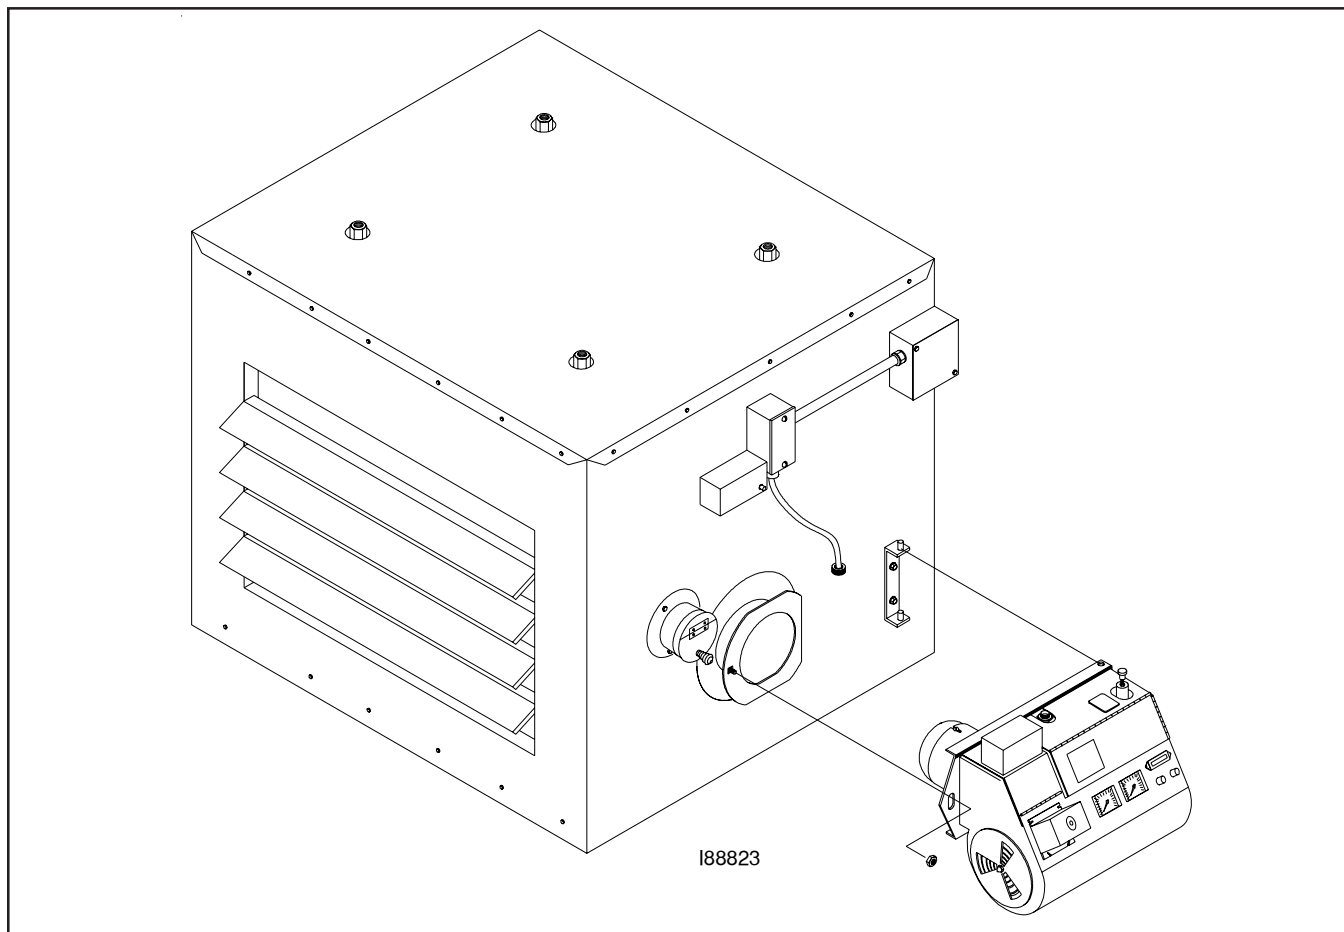

Figure 3E - Mounting the Burner
2. Lift the burner into position so the burner hinge plate is mounted on the hinge bracket on the furnace cabinet as shown in Figure 3E.